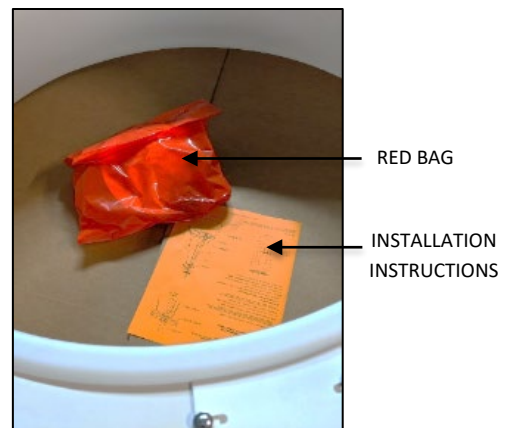

FIG.5 RED BAG AND
2. INSTALLATION INSTRUCTIONS (as shown in FIG. 5)- Please completely read the install instructions before starting installation.